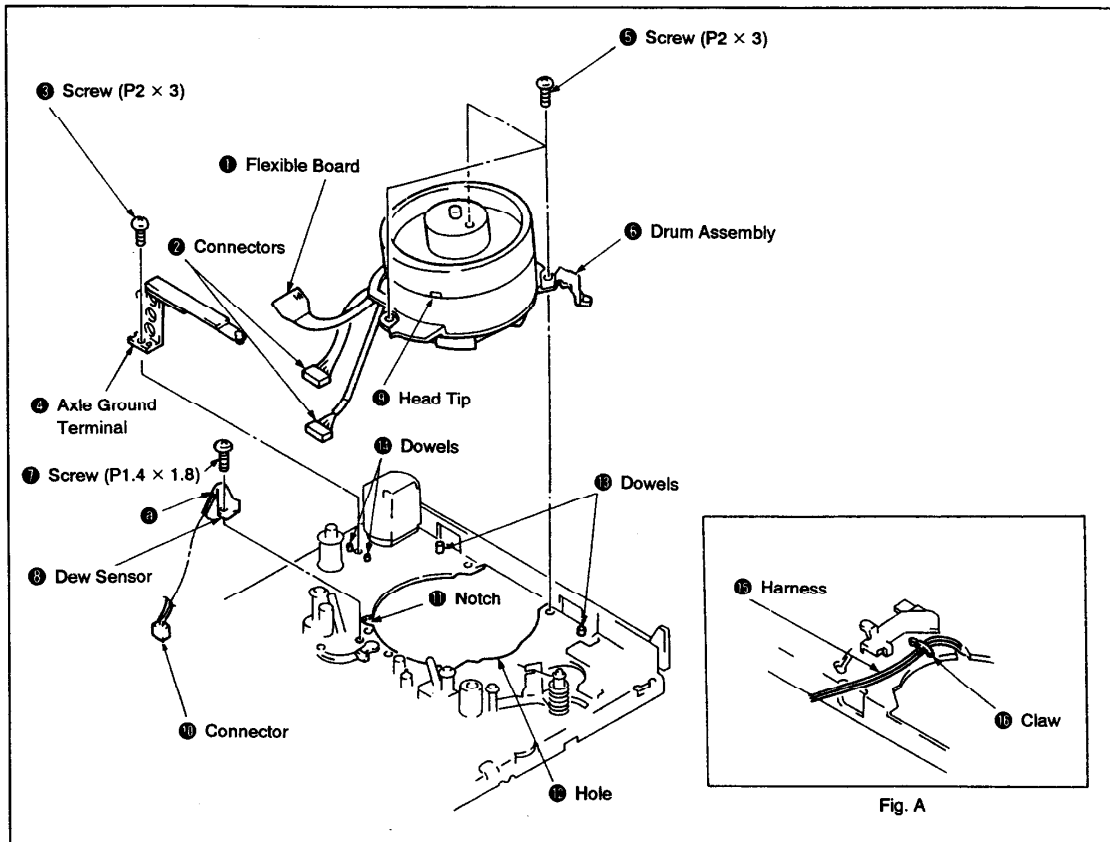

Fig. 3-14.
1. Removal (See Fig. 3-14.)
- When removing the drum assembly ⑥ from the mechanism chassis, take care not to cut the flexible board ① or the harness.
- Take care not to touch the head tip ⑨.
2. Installation (See Fig. 3-14.)